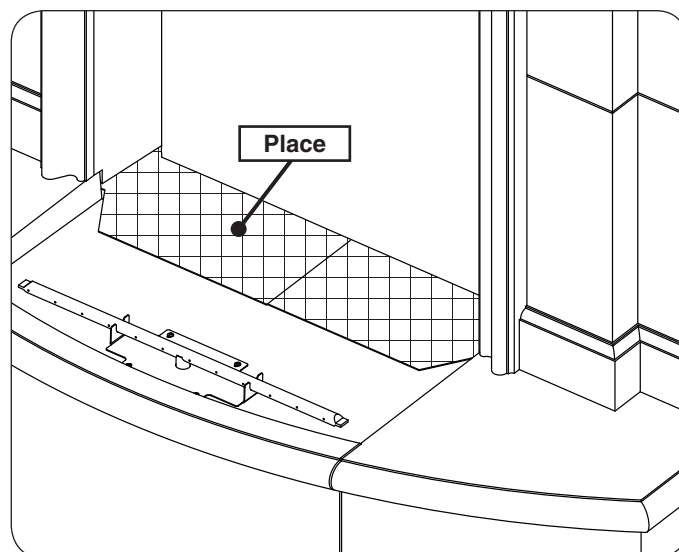

Fig. 25-2 Place left screen
2. Place the left screen as shown in Fig. 25-2.